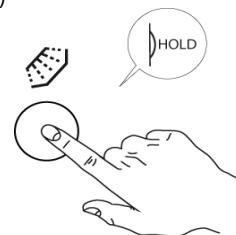

Fig.32
- 1- Hold button "G" manual cold rinse cycle for time necessary to cool down dishes. (Fig.32)